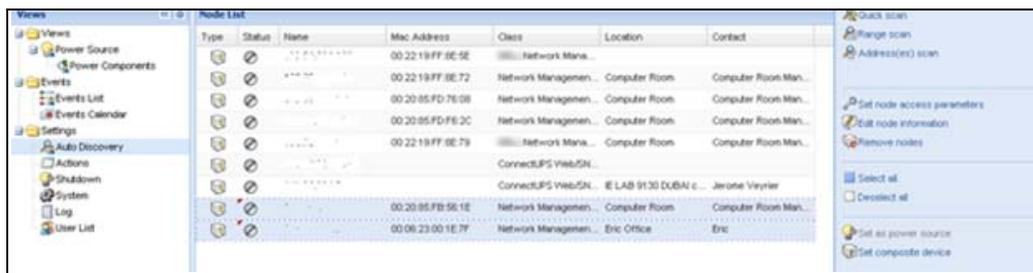

Figure 113. Selecting Set Composite Device for Nodes
4. Click **Set composite device** in the right panel (see Figure 113).
Actions you can perform on the new node are as follows (see Figure 113):